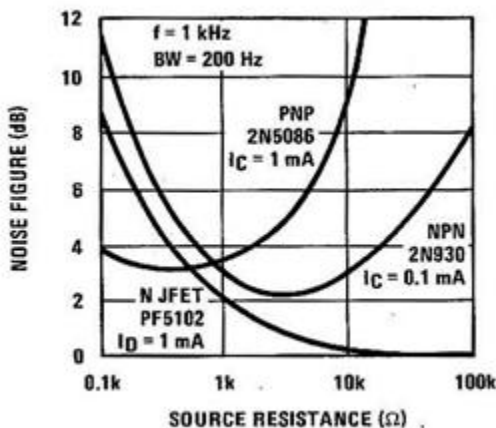

Figure 1. Bipolar and JFET Transistor Noise Comparison
Most designers think of JFETs for very high source impedances. However, modern devices offer the designer performance improvements over bipolar transistors in Noise Figure (NF) for all but lowest impedance (<5000Ω) sources and even then may provide improved performance if popcorn noise, bandwidth or circuit component noise is a consideration (see Figure 1).